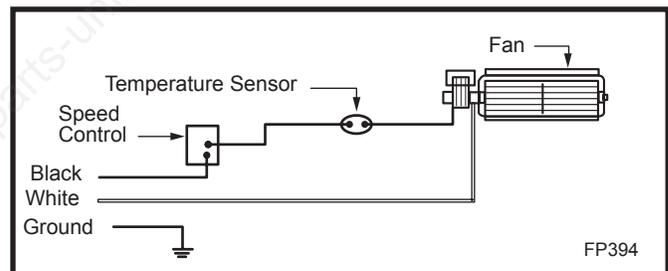

Fig. 6 Wiring diagram RN/RP. **NOTE:** For comfort valve wiring diagram refer to Page 18, Figure 27.
**Should this fan require servicing, the power supply must be disconnected. For rewiring of any replacement components refer to Figure 6.**